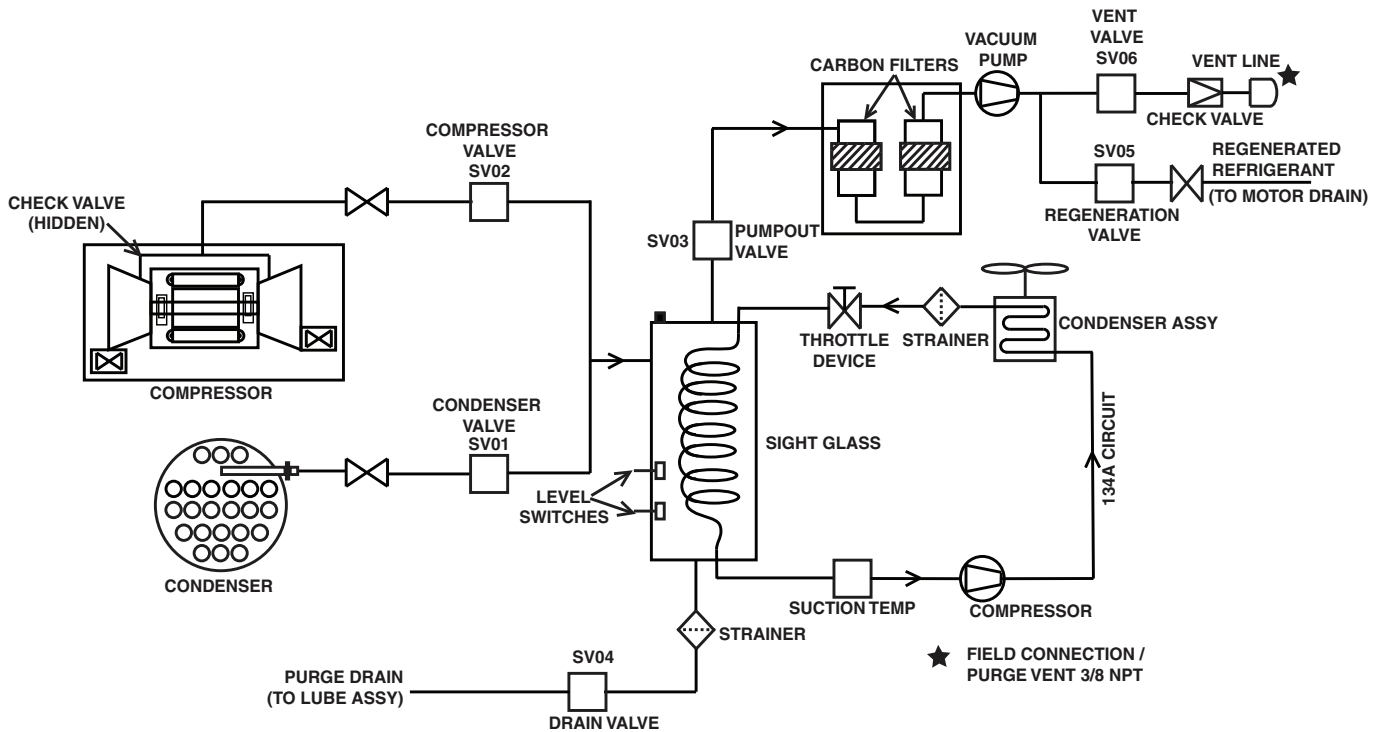

Fig. 9 — Purge Tank
In the purge tank the purge gas is cooled by a separate integral R-134a cooling system. The cooling system consists of an compressor, an air cooled condenser coil, an expansion valve, and a cooling coil in purge tank. Cooling the purge gas results in condensation of R-1233zd(E) vapor as it touches the coil resulting in a vacuum which the result that more refrigerant is pushed to the coil. As the purge tank fills up with refrigerant it will be drained through the purge drain to the refrigerant pump assembly. See Fig. 9.